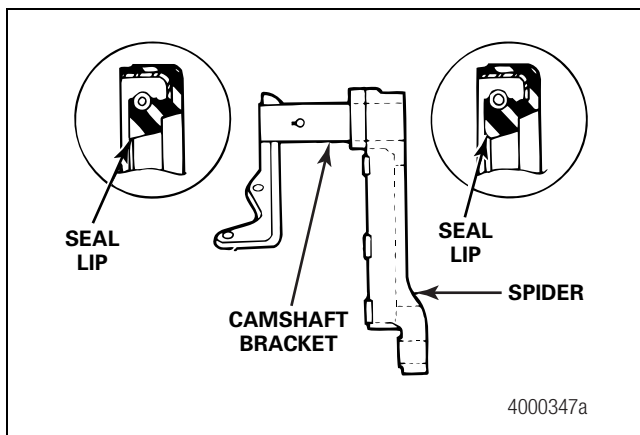

Figure 5.19
- E. Place a seal into the bore of the spider and bracket. The lips of the seal must face the slack adjuster. Use the correct size driver to install the seals into the bore. The seal is correctly installed when the bottom of the seal touches the bottom of the bore. Figure 5.19.